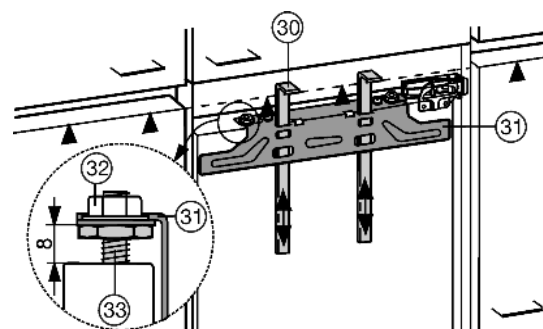

Fig. 20
The fitting aids Fig. 20 (30) are required for both doors. Therefore fit the unit doors one after the other.
- ▶ Slide up the assembly aids Fig. 20 (30) to the height of the unit door. Lower stop edge ▲ of the assembly aid = upper edge of the unit door to be fitted.